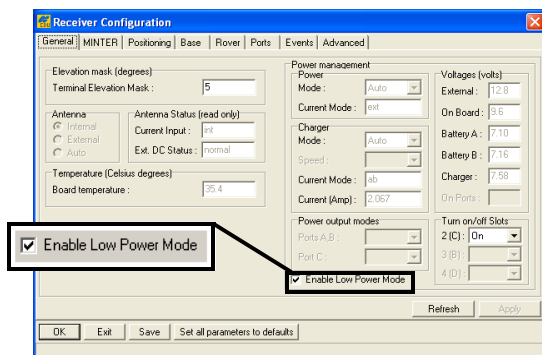

Figure 2-13. Enable and Apply Power Settings
7. Select the *Enable Low Power Mode* check box to put the receiver's processor into low power consumption mode (Figure 2-13).